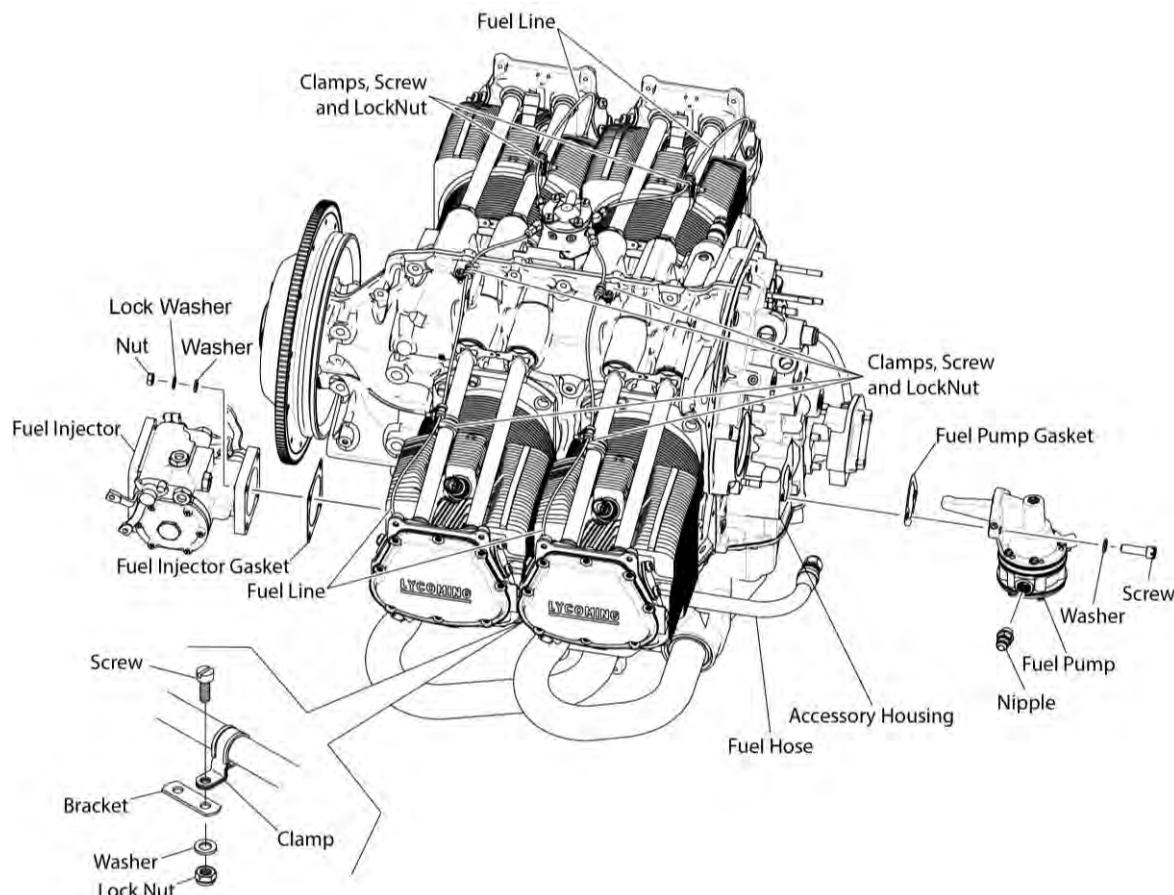
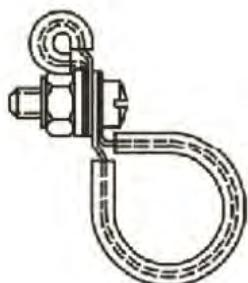

Figure 1
Figure 2
- (1) Put a fuel collection container under the fuel line (Figure 1) at each fitting connection.
- (2) Make a sketch to identify clamps that attach to brackets for reference on assembly.
- (3) Remove and discard the P and L clamps (Figures 2 and 3) from the fuel line.
- (4) Disconnect the fuel line from the fitting on each end.
- (5) Discard the fuel line. (Keep the fuel fittings if they are not part of the fuel line.)
- (3) Connect the fuel line to the fuel fitting on each end.
- (4) Torque each fuel line fitting in accordance with the latest revision of the *Service Table of Limits - SSP-1776*.
- (5) Make sure that the fuel lines are securely held in place, attached to the engine (to dampen vibration during flight) with the necessary cushioned clamps and hardware. Install clamps on the fuel line as per the following guidelines:
- (c) Refer to Figures 2 and 3 which show how the fasteners are to be installed on P-clamps and L-shaped clamps.